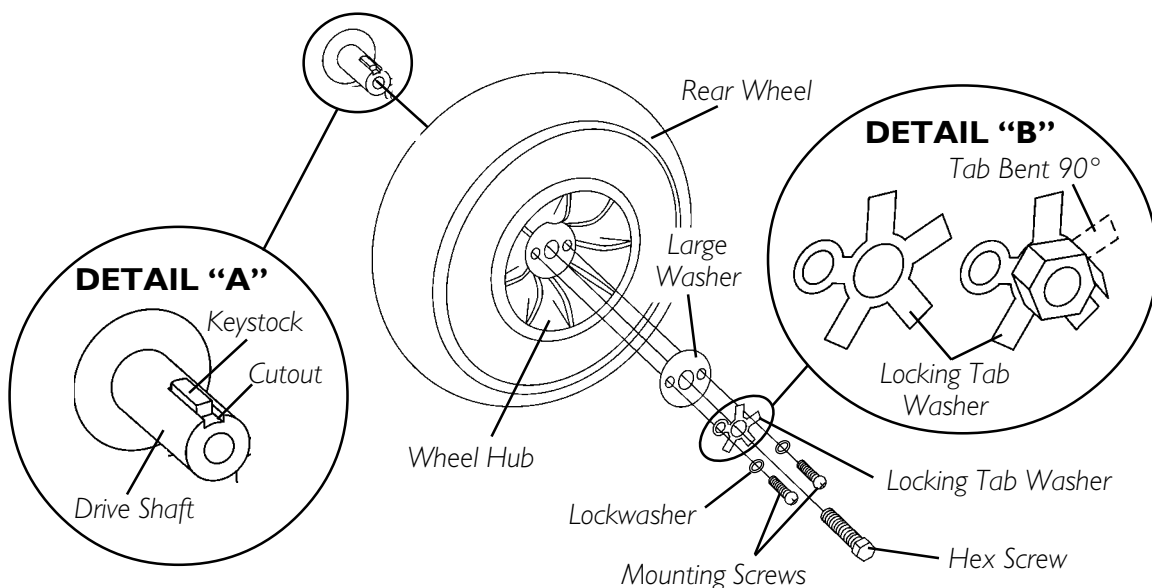

FIGURE 2 - REMOVING / INSTALLING THE REAR WHEELS
8. Visually inspect the hex screw and the NEW locking tab washer. Ensure one (1) of the tabs on the NEW locking tab washer is parallel with one (1) of the flats on the head of the hex screw (DETAIL "B", FIGURE 2).
9. If one (1) of the tabs on the NEW locking tab washer is NOT parallel with one (1) of the flats on the head of the hex screw, TIGHTEN the hex screw until the closest flat and locking tab are parallel.
10. Bend the parallel tab of NEW locking tab washer up tight against the hex screw (FIGURE 2, DETAIL "B").